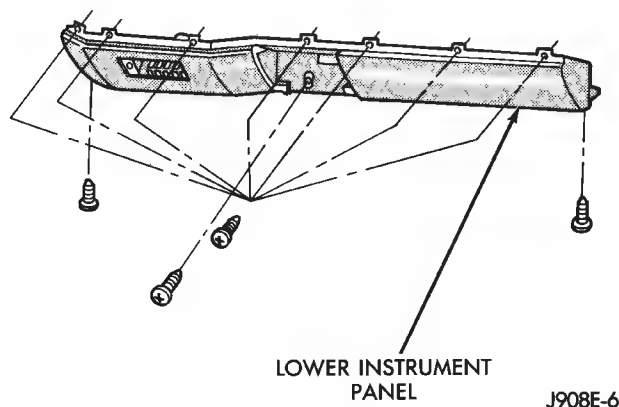

Fig. 13 Lower Instrument Panel/Knee Blocker
- (1) Disconnect battery negative cable.
- (2) Remove lower instrument panel screws along bottom edge of steering column (Fig. 13).